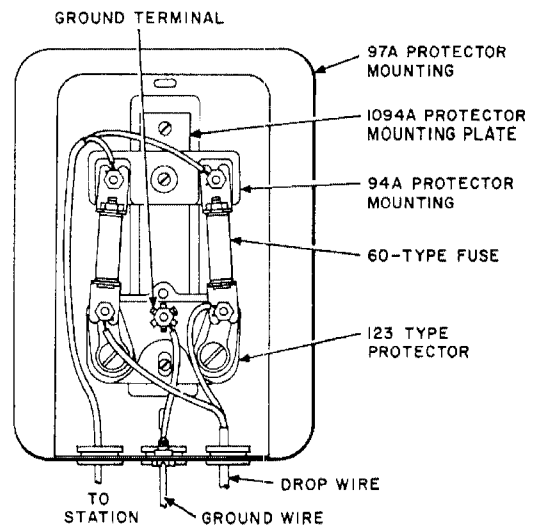

Fig. 21—Fuseless Protectors and 60-Type Fuses—Outdoor Installation
7.05 The 97A Protector Mounting is used to house the 123A1A Protector equipped with 60-type fuses at an outdoor installation. Two screws are furnished with the protector mounting for fastening the protector to the back of the mounting. Two holes are provided in the back for attaching the protector mounting to its mounting surface. Fig. 21 illustrates a typical installation.